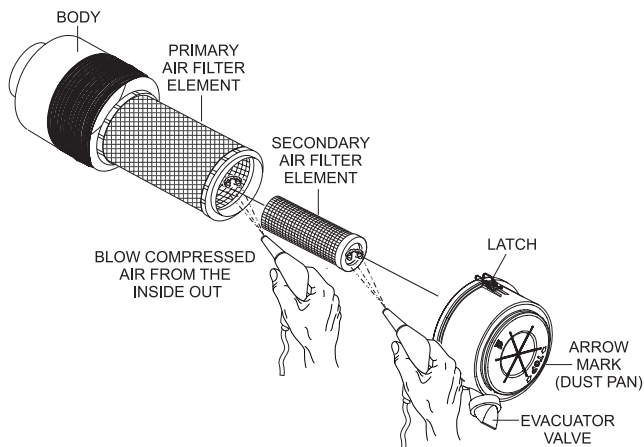

Figure 63. Engine Air Cleaner
The air cleaner (Figure 63) provided with this Isuzu diesel engine is equipped with a replaceable, high-density, paper air filter element. The air cleaner is also equipped with an inner (secondary) element that is used as a backup filter should the primary element become damaged. Check the air cleaner daily or before starting the engine. Replace the air cleaner as needed.
1. Release the latches that secure the cover to the air cleaner body (Figure 63).
2. Remove the air cleaner cover (Figure 63) and set it aside.
3. Remove both the primary and secondary air cleaner elements (Figure 63).
5. To clean the primary element (paper air filter) as shown in Figure 63, tap the filter element several times on a hard surface to remove dirt, or blow compressed air, not to exceed 30 psi (207 kPa, 2.1 kgf/cm²), through the filter element from the inside out.
8. Clean the inside of the air cleaner body (Figure 63).